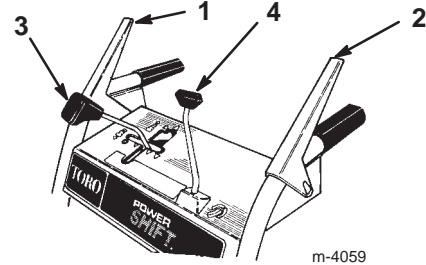

Figure 13
- **Auger/Impeller Drive Control Lever** (Fig. 13)—To engage both the auger and impeller, press the lever against the right handgrip. To disengage, release the lever.
- **Traction Control Lever** (Fig. 13)—To engage the traction (wheel drive), press the lever against the left handgrip. To stop the traction, release the lever.
- **Speed Shift Control** (Fig. 13)—This control has a neutral position, 4 forward speeds, and 2 reverse speeds. It also controls the power shifting of the wheels. To select a speed, move the shift control to the desired position.
- **Discharge Chute Control** (Fig. 13)—Rotate the discharge chute control clockwise to move the discharge chute to the right; counterclockwise to move the chute to the left.
- Release the auger/impeller drive control lever and the traction control lever (Fig. 13).
3. Release the auger/impeller drive control lever and the traction control lever (Fig. 13).